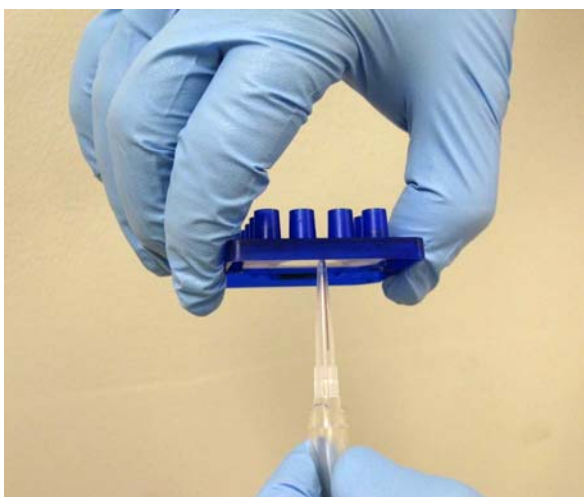

Figure 19. Removing an air bubble or clog by suctioning the sipper with a vacuum line.
- If air bubbles are not dislodged after a reprime, apply a vacuum to the sipper. Perform this by filling all active wells with 100 μ L of Chip Storage Buffer. Then suction the sipper with a vacuum line as shown in Figure 19 until droplets of fluid flow out from the sipper. When suctioning the sipper, be careful not to bend or break the sipper. To facilitate this, cut the end of the pipette tip attached to the vacuum line to widen the mouth.